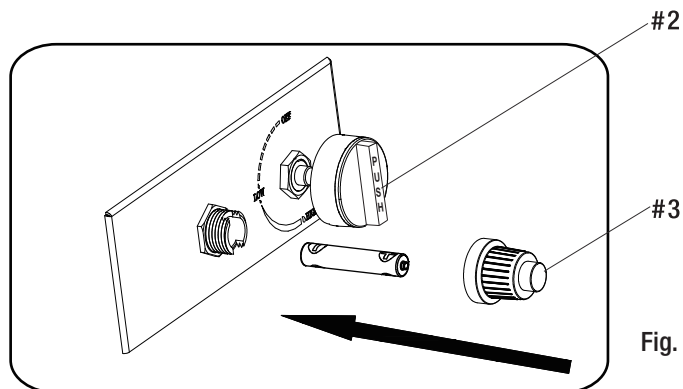

Fig. 4
- Over the battery with the plastic cover. (Fig.4)